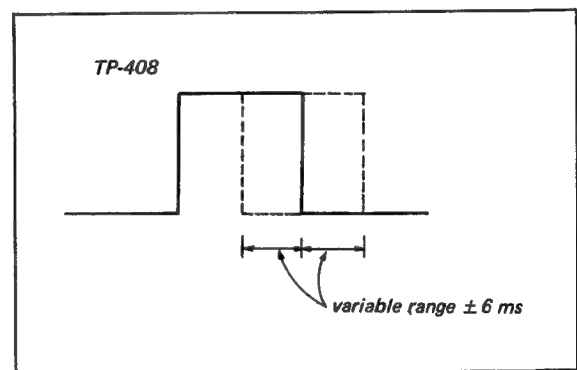

Fig. 6-12. Tracking control check
Check: See Fig. 6-12.
4. Pull and turn the TRACKING control (R007) and confirm that the output pulse shifts ± 6 msec as shown in Fig. 6-12.